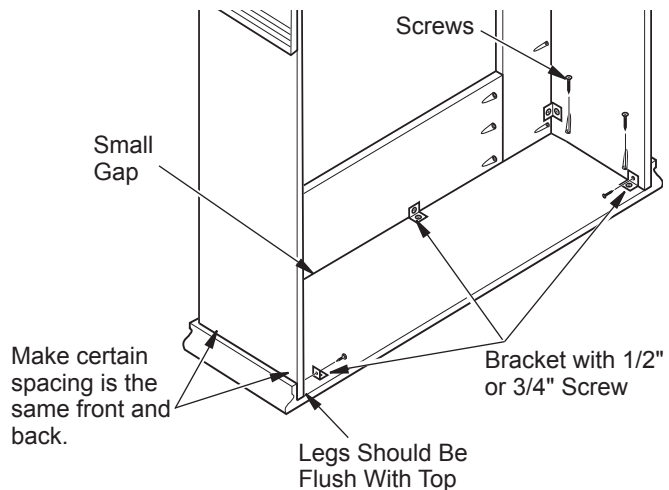

Figure 6 - Attaching Top to Leg and Header Assembly
- Attach side and header assembly to mantel top using 1 1/4" screws inserted through pocket holes (see Figure 6).
- Attach 3 brackets to assembly using two 1/2" or 3/4" screws per bracket. One bracket should be in center of header and the other two toward back of leg assembly on each side (see Figure 6).